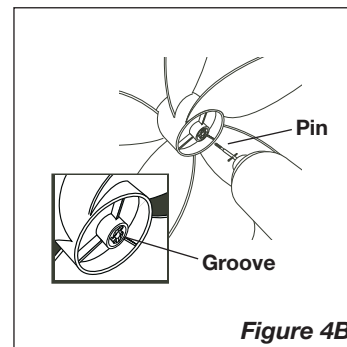

Figure 4B
3. Fully seat **Rear Grill** and secure with **Plastic Nut** turning Clockwise. Slide **Blade** onto **Motor Shaft** (Align groove on blade hub with pin on motor shaft). (Figure 4B)